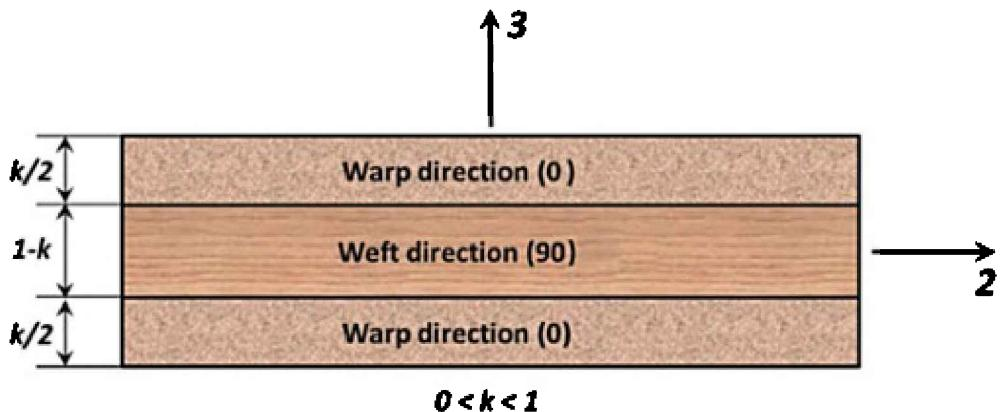

Figure 6.20. Representing a ply as a three-layer stack
1. The woven ply is represented as three layers (Figure 6.20): two outer unidirectional plies of thickness $k/2$ at angle 0° (warp fiber direction) and one inner unidirectional layer of thickness $(1 - k)$ at angle 90° (weft fiber direction).
3. Using the calculated properties of each layer and layup angles, effective properties of the composite are determined for the 1–2 coordinate system (Figure 6.20), where 1 is the warp direction. These properties are calculated in a similar way to the calculation of composite effective properties in **Laminate Modeler**, including transverse shear moduli.